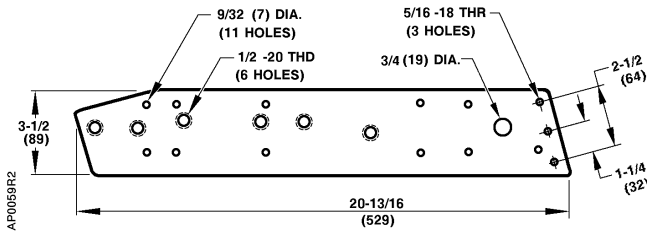

Figure 12. Actuator Mounting Plate 331-623, 1/4-Inch (6 mm) Thick. Dimensions in Inches (Millimeters).
- Normally open damper: Attach the plate to the lug (Figure 12). Place the pivot post in Hole 6.
Table 8. Mounting Plate Hole Designations (Figure 12).